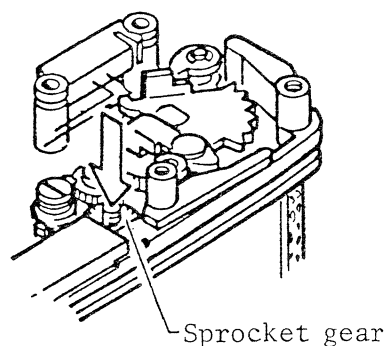

Fig.11
2. Press top of the sprocket gear with your left hand index finger. (Fig. 11)